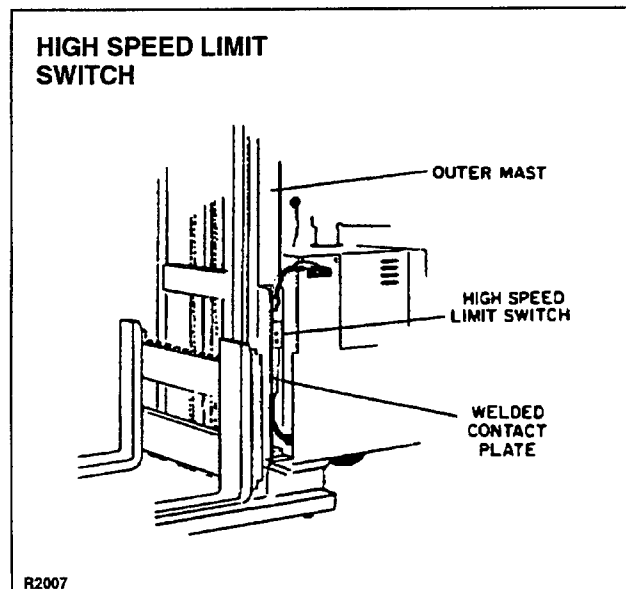

Figure 10-3. Mast Related Electrical Components
2. Remove high speed limit switch (Figure 10-3) from bracket, and then disconnect wiring from the switch.